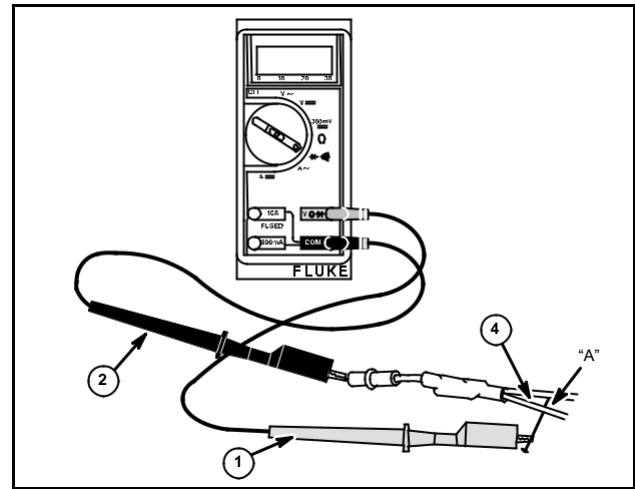

Fig. 28
5. **Lighting Circuit (White Wire B-)** Attach RED test lead (1) clip to point "A," Fig. 28. (It may be necessary to pierce white wire (4) with a pin as shown.) Insert BLACK test lead (2) probe into harness connector.